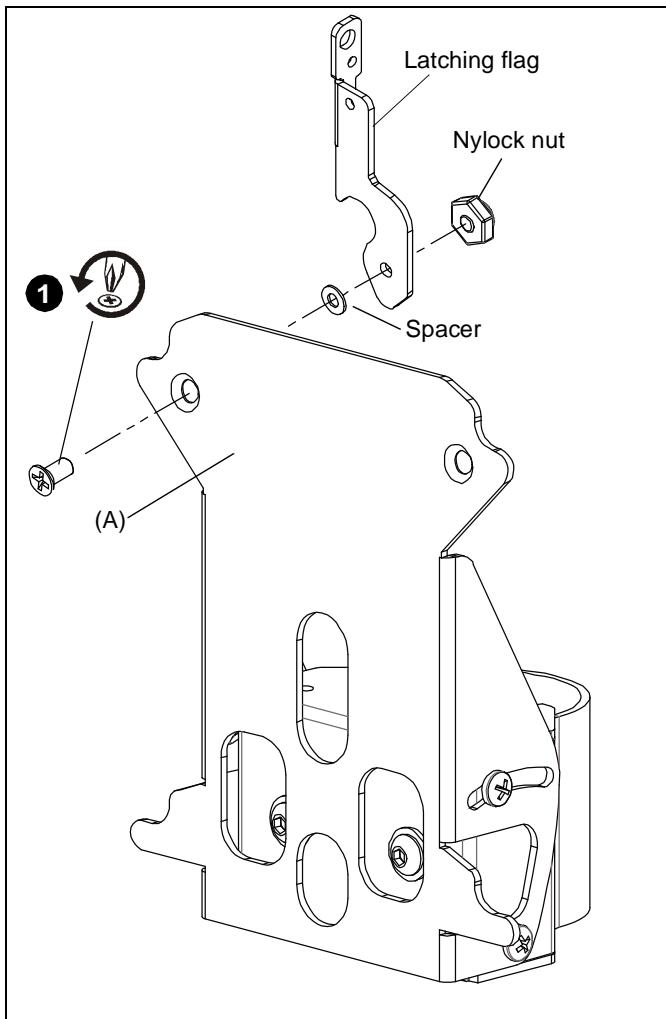

Figure 1
1. Remove Phillips undercut machine screw, spacer, Nylock nut and latching flag from FSP (A). (See Figure 1)